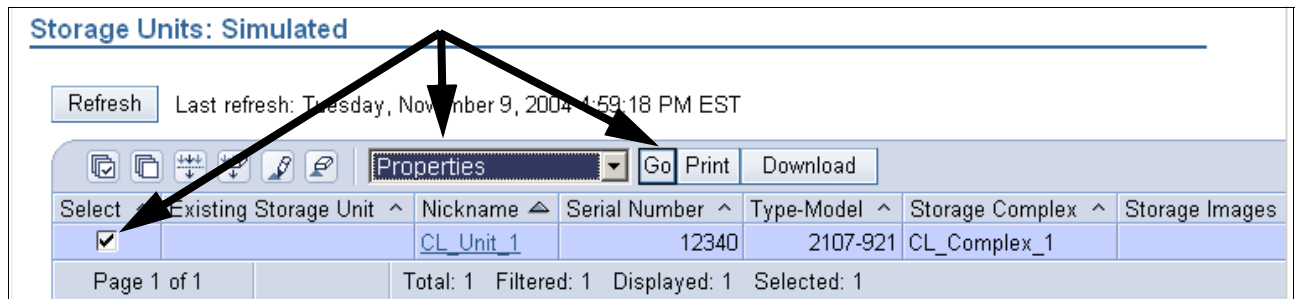

Figure 10-48 View of the storage unit with the Radio button selected and the Properties selected
3. Select the radio button beside the storage unit name as shown in Figure 10-48.